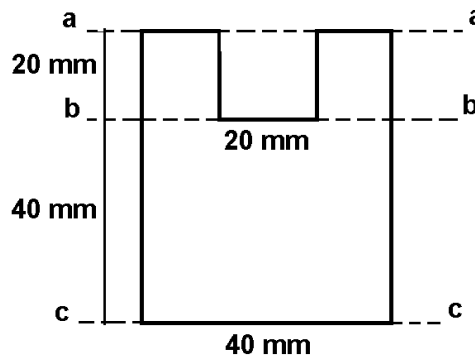

Figure 4c
- c) The section of a beam as shown in figure 4c is subjected to a hogging bending moment of magnitude 800 N-m. Determine the bending stresses induced at layers a-a, b-b and c-c. Draw the bending stress distribution across the section. 08